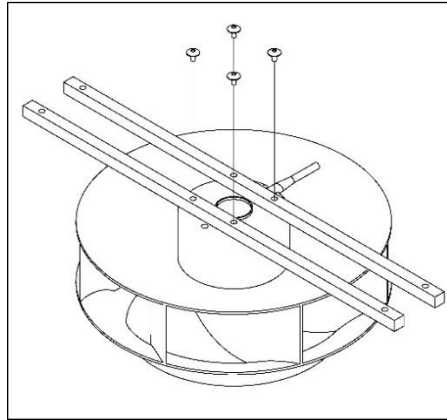

Figure 18
- 6.) Disconnect fan motor from motor bracket by loosening (4) screws with an Allen wrench. See Figure 18.
- 8.) Connect new fan motor to the fan bracket using (4) screws. Tighten with an Allen wrench. See Figure 18.